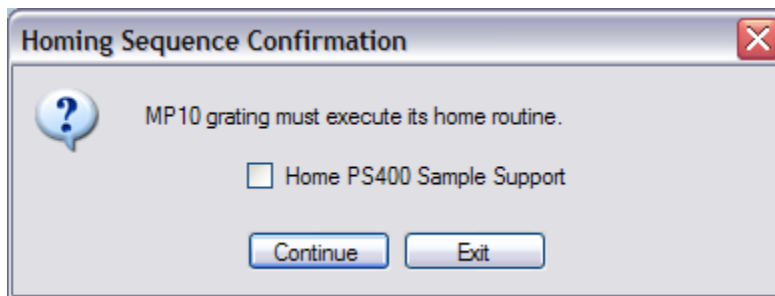

Figure 3.1 Homing Sequence Confirmation
4. When the Homing Sequence Confirmation Dialog is displayed (**Figure 3.1**), check whether or not to home the main system sample support and press Continue to home the MP10 motor stage.